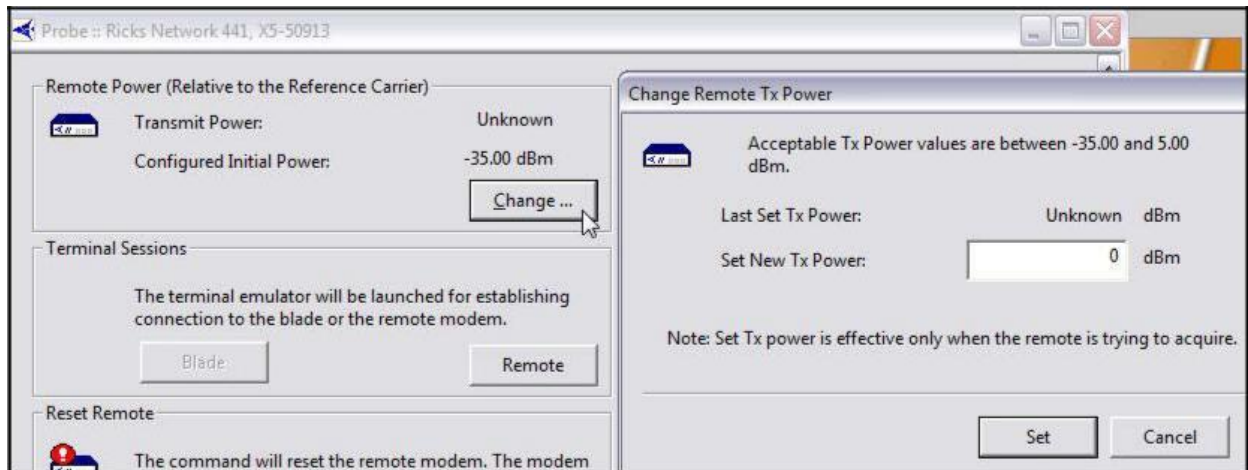

Figure 53. iMonitor Probe: Changing the Satellite Router Transmit Power
4. In the **Remote Power** section of the **Probe** dialog box, click **Change** to open the **Change Remote Tx Power** dialog box (Figure 53).
6. In the Change Remote Tx Power dialog box (Figure 53 on page 92):